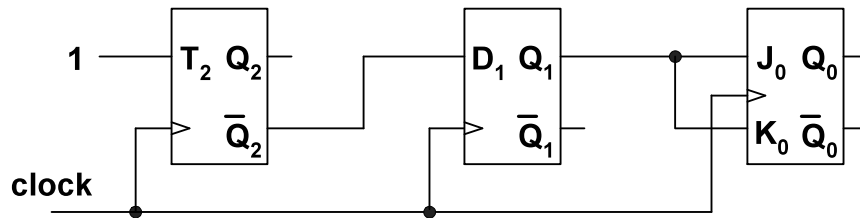

Figure 8 - Circuit for question 13 (it is assumed that after power up the state is 000).
13. The periodic sequence $Q_2Q_1Q_0$ generated by the circuit shown in Figure 8 is: